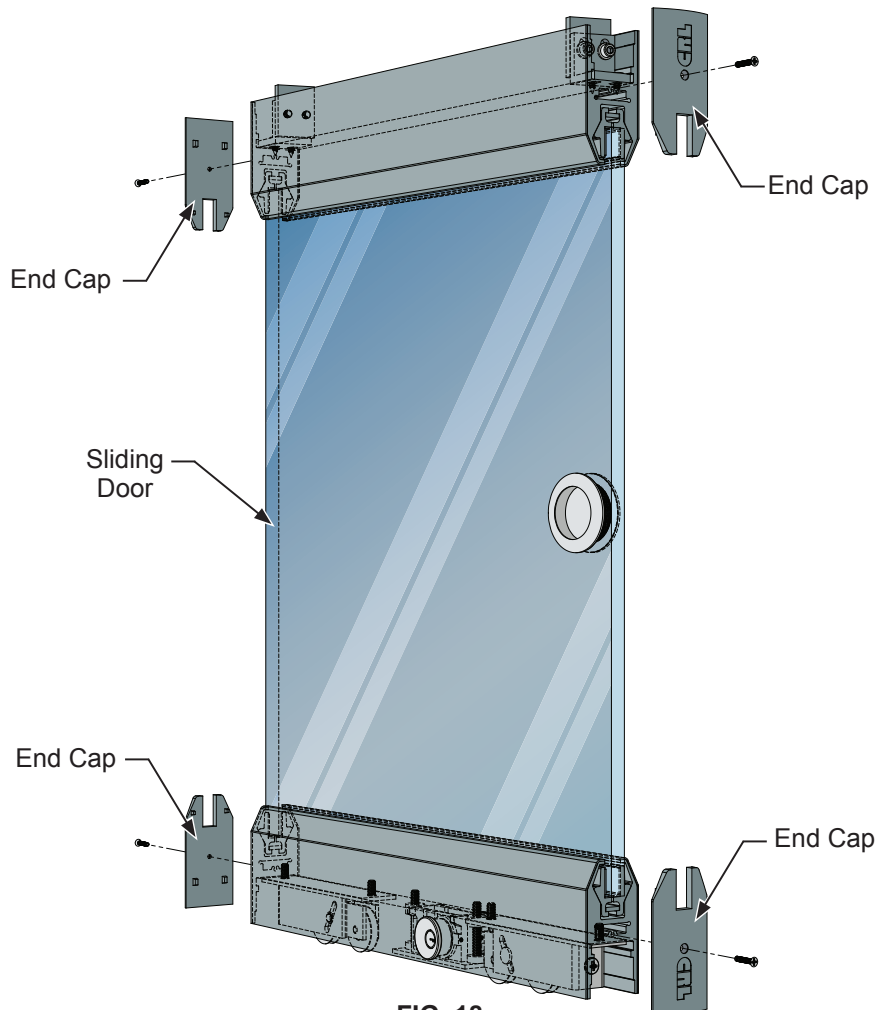

FIG. 18
10. Re-Install the End Caps from both Top and Bottom Rails. (FIG. 18)